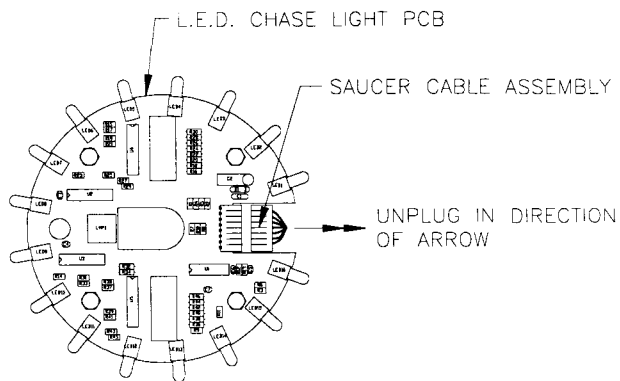

FIGURE 6
4. Carefully unplug the Saucer Cable (p/n H-20704.1) from the L.E.D. Chase Light PCB (p/n A-20670) and push the cable out of the Saucer Body Assembly through the rectangular access hole in the bottom of the Saucer Body Assembly. (See Fig.6)